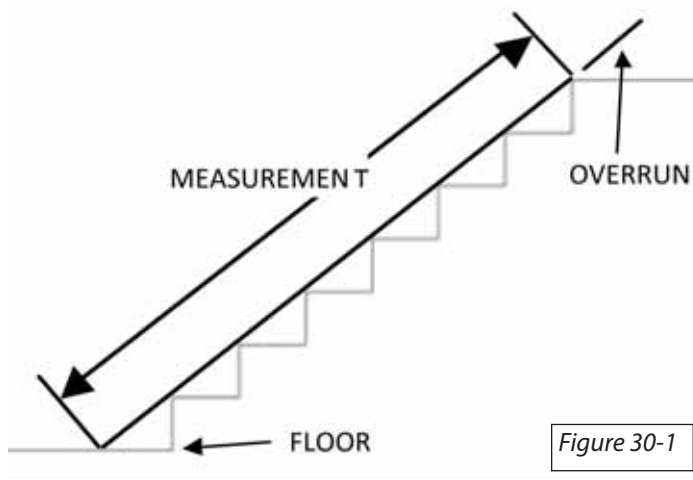

Figure 30-1
1. Measure from the nose of the top step to the point on the landing where the rail will rest [Figure 30-1]. Enter this measurement into BOX 1 of the Rail Length Worksheet below.